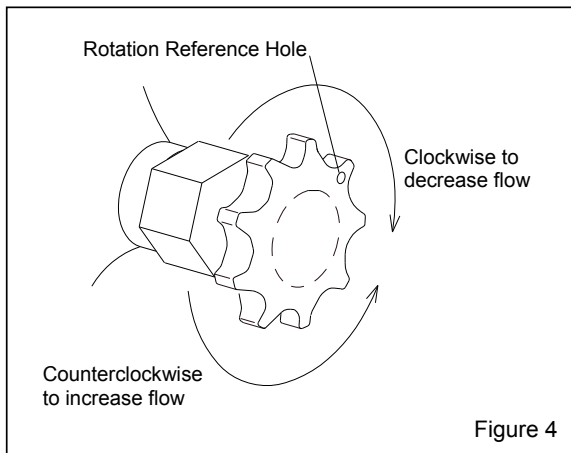

Figure 4
3.0 ADJUST ABRASIVE FLOW, Figure 4